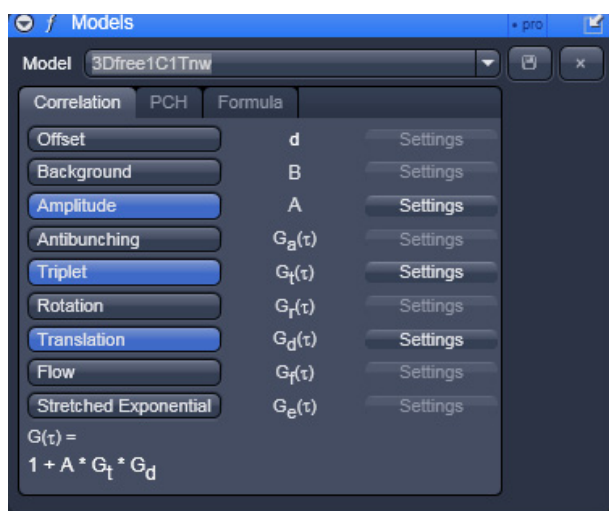

Fig. 9-55 Models panel – Correlation
- Press the **Correlation** tab to activate the options for assembling a correlation model (Fig. 9-55). Press any other tab to leave the panel.
- You can load a pre-defined model from the **Model** drop down menu. Its name will then be displayed in the **Model** display box (Fig. 9-55).